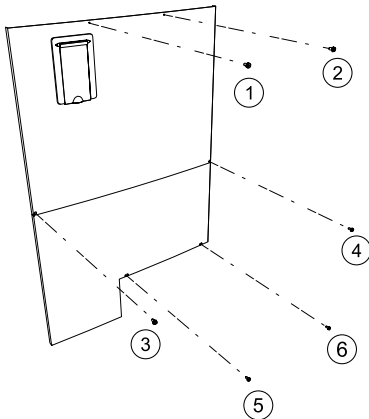

Figure 44. Sheet Metal Screws to Remove Control Panel
If service access to the heater is required, it is accomplished by removing the control cover panel and service access panel (Figure 44) to provide a wide access to get to (1) compressor, (2) heat exchanger, (3) thermal expansion valve (TXV), (4) reversing valve/solenoid valve (if equipped), (5) flow switch (if equipped), and (6) sensors (water, ambient and coil). To gain access, follow the steps below:
2. Remove the heater's front control cover panel by unscrewing the six (6) screws using a 1/4" hex head screwdriver. See Figure 44.